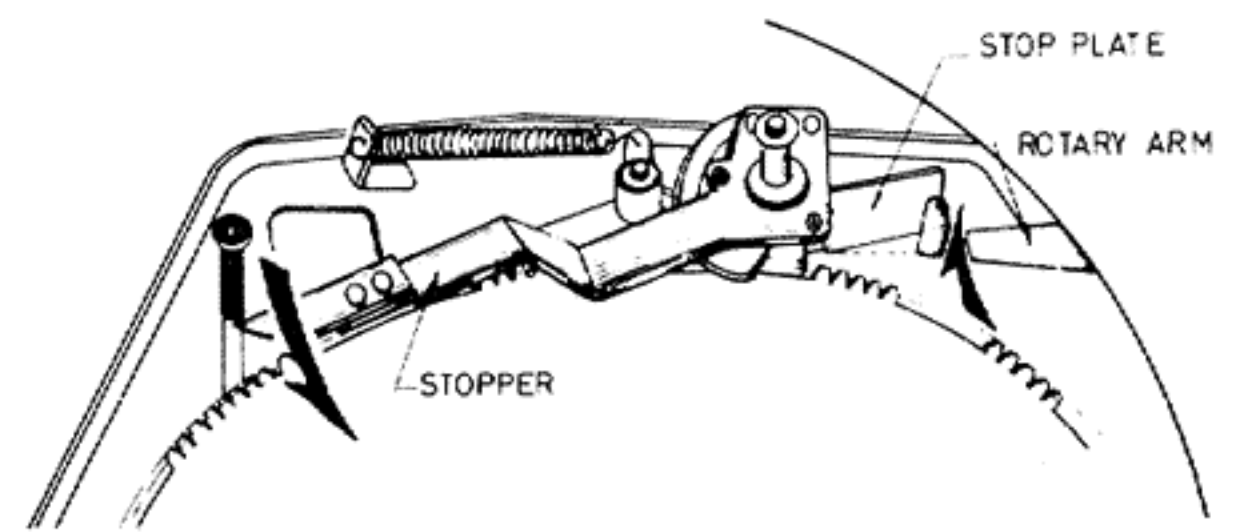

Fig. 7
1) At the moment when the disc has been played back to the end, the pick-up goes into the inside turn of the sound groove. At that time the rotating arm pushes the stop plate to push the stopper away from the position shown by the dotted line. (Fig. 7)